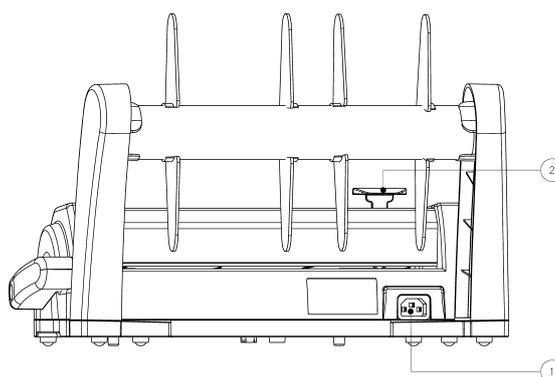

fig. 5 Connection point
Insert the female plug of the power cord into the power port (1) of the machine (see fig. 5). Next, plug the power cord into the wall socket.